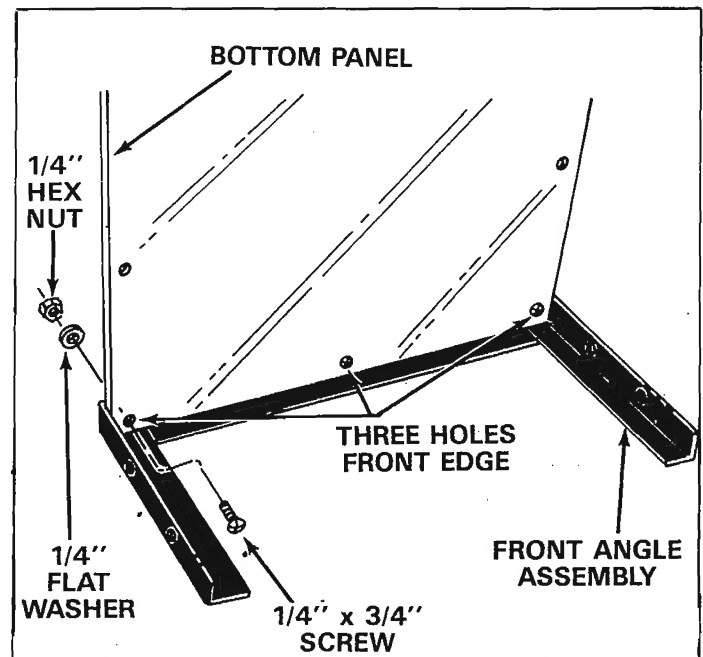

FIGURE 2.
1. Lay the front angle assembly down (flat) on floor and stand the bottom panel in position as shown in figure 2.
The bottom panel has one galvanized edge, this is the rear. The front edge has three holes. See figure 2.
2. Line up three holes in bottom panel with holes in front angle assembly. Start three 1/4" x 3/4" truss head screws through bottom panel, then through angle. Secure screws with flatwashers and hex nuts. See figure 2. Tighten securely.